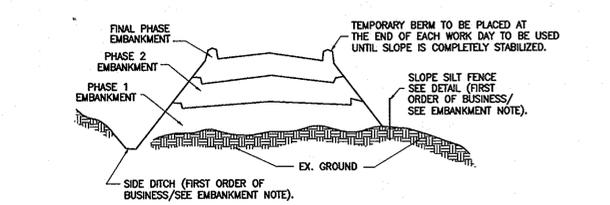

Figure 5 Incremental Stabilization - Embankment Fill
- Construction sequence: Refer to Figure 5 (below):
- Select one or more of the species or mixtures listed in Table 26 for the appropriate Plant Hardiness Zone (from Figure 5) and enter them in the Temporary Seeding Summary below, along with application rates, seeding dates and seeding depths. If this Summary is not put on the plans and completed, then Table 26 must be put on the plans.
- Select one or more of the species or mixtures listed in Table 25 for the appropriate Plant Hardiness Zone (from Figure 5) and enter them in the Permanent Seed Summary below, along with application rates and seeding dates. Seeding depths can be estimated using Table 26. If this Summary is not put on the construction plans and completed, then Table 25 must be put on the plans. Additional planting specifications for exceptional sites such as shorelines, streambanks, or dunes or for special purposes such as wildlife or aesthetic treatment may be found in USDA-NRCS Technical Field Office Guide, Section 342 - Critical Area Planting. For special low maintenance areas, see Section IV Sod and V Turfgrass.